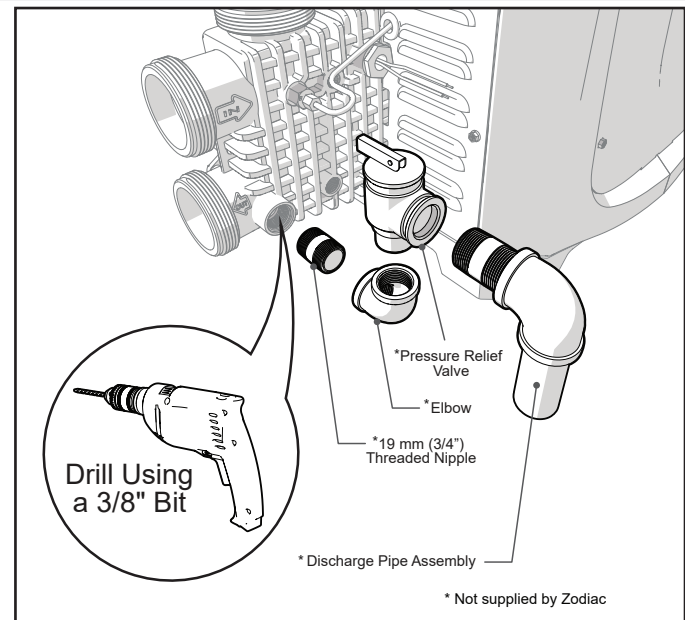

Figure 13. Pressure Relief Valve install
- Locate the threaded boss on the outlet port of the header, and find the dimple at the center. See *Figure 13*.